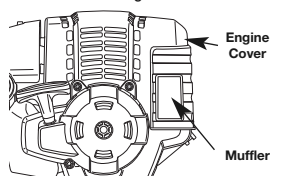

Fig. 35
2. Remove the engine cover (Fig. 35).